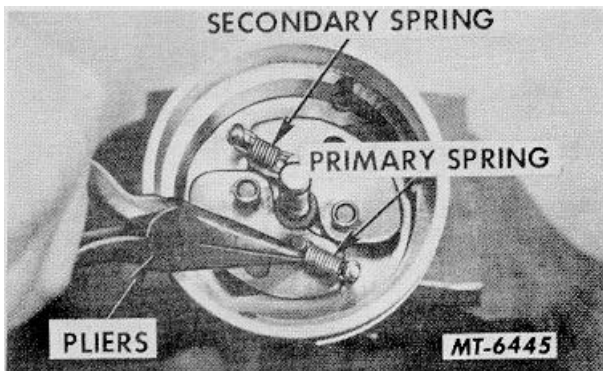

Fig. 23 Removing Advance Springs
11. Remove primary and secondary advance weight springs (Fig. 23)